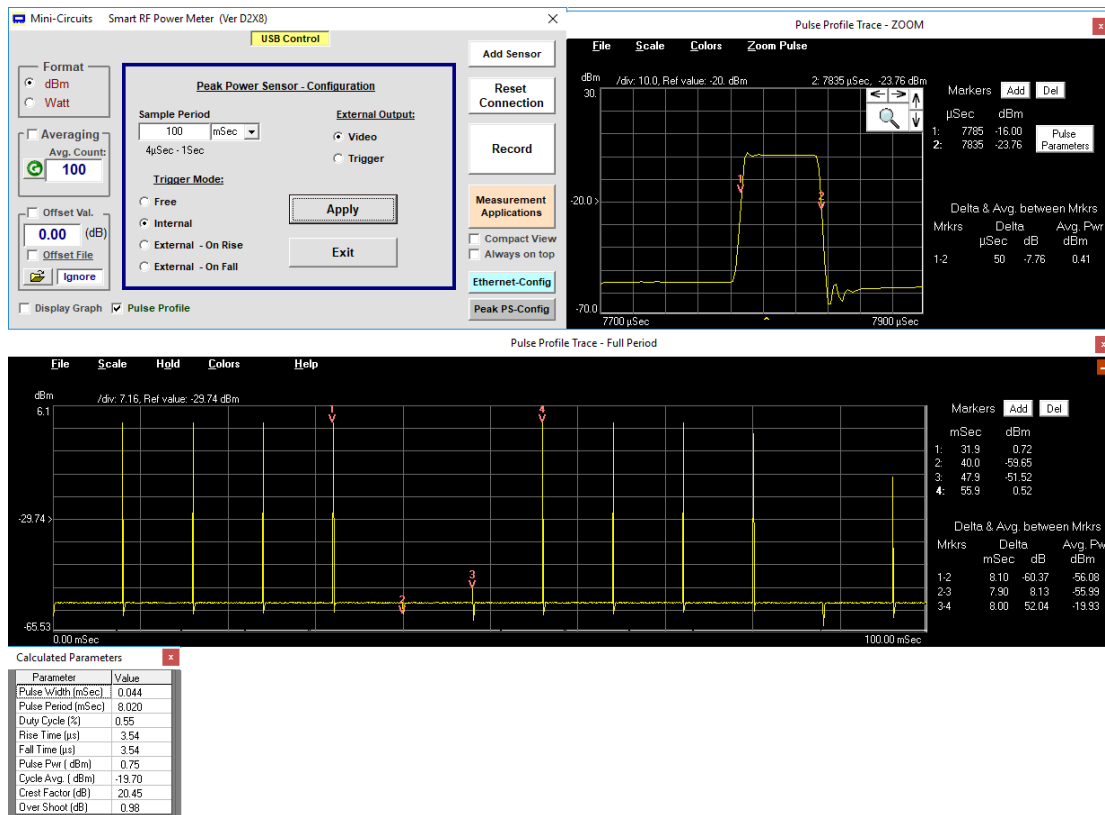

Figure 4.2: Pulse Profiling Windows
4.2.1 Pulse profiling display options (Fig.4.2)